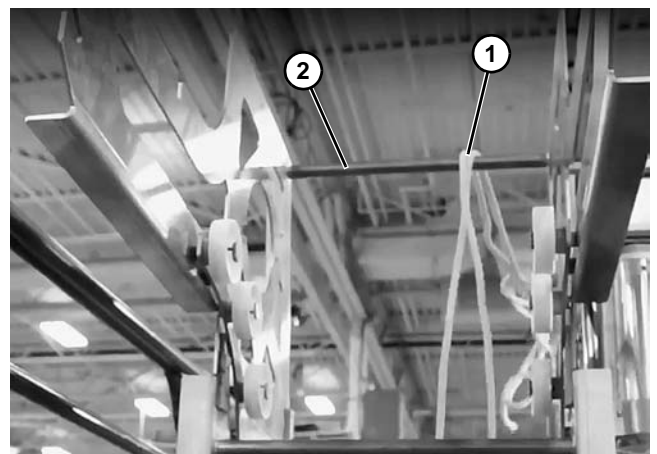

Figure 56
4. Bring the rope (Figure 56, item 1) up through the top of the conveyor frame (Figure 56, item 2).